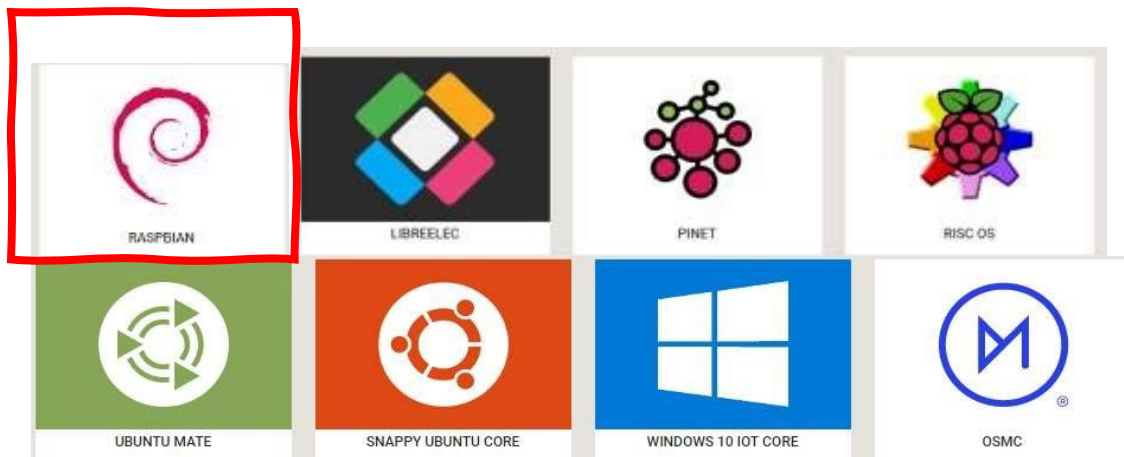

Figure 4: Logos of Different Operating Systems
When setting up Raspberry Pi, always keep in mind that you are setting up a small PC. Like a PC set up Pi must be set up with Operating System (OS). **Raspbian** is the official operating system for all models of the Raspberry Pi. However, there are **third-party operating systems**, like Ubuntu Mate, Snappy Ubuntu Core, Windows 10 IoT core, OSMC, Librelec, Pinet, and RISC OS. Logos of different OS for Pi is shown in following Fig. 4.